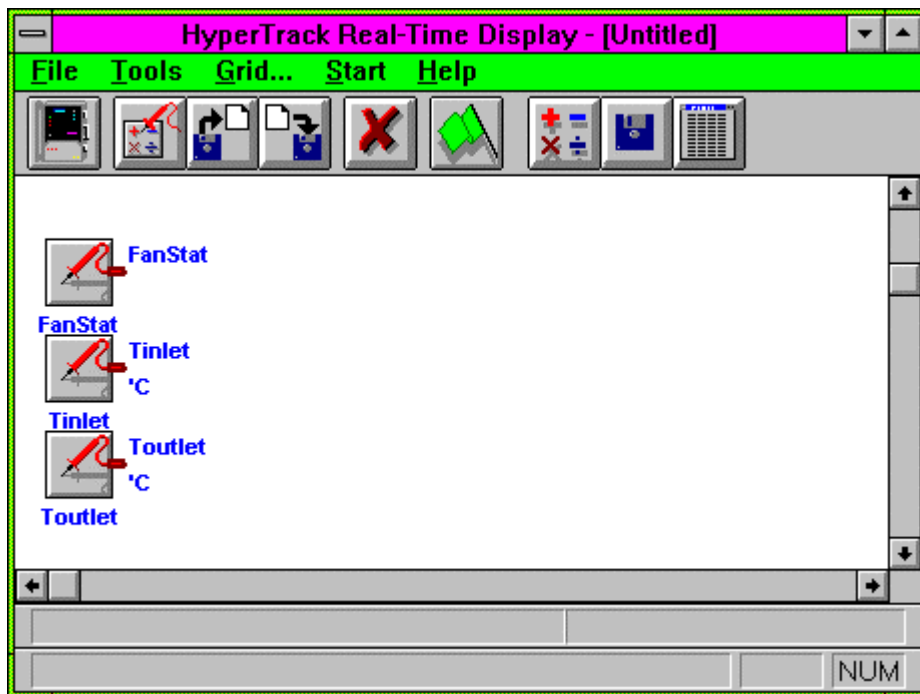

Figure 10... -5: Probe Points detected in the currently loaded Net Program
1. From within the HyperComm Window, click on the HyperTrack button (or double click on the Probe Point icon overlaying the PC) and the HyperTrack window will appear with Probe Point icon(s) displayed on the left edge of the workspace (Figure 10... -5). These icons represent the Probe Point icons detected in the Program Net that was just downloaded to the PC (and which is